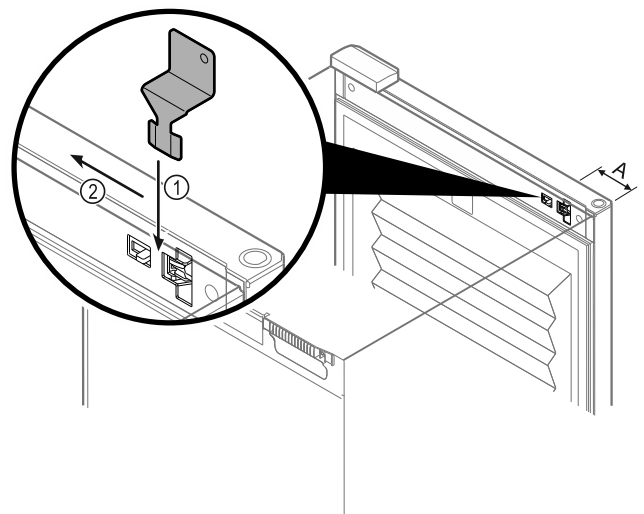

Fig. 228
- ▶ Insert the emergency release key in the specified position Fig. 228 (A) ≈ 100 mm (3 15/16 in).
- ▶ Insert the emergency release key Fig. 228 (1) from the top between the door and device body until it reaches the stop.
- ▶ Pull the emergency release key in the direction of the hinge. Fig. 228 (2)